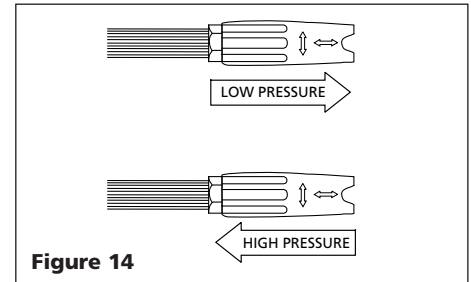

Figure 14
3. Slide nozzle to the low pressure position as shown in Figure 14 and apply detergent.